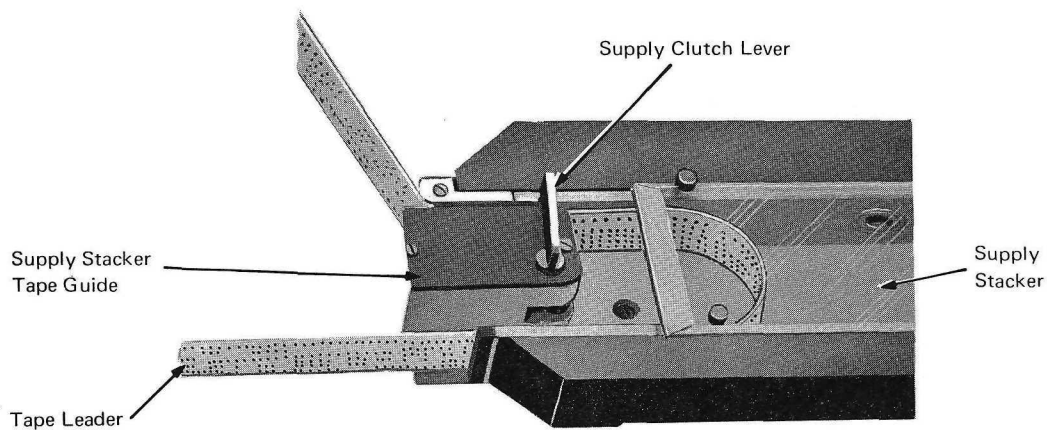

Figure 16. Step 4: Loading Supply Stacker [08315]
- a. Turn the supply clutch lever (Figure 16) fully to the left.